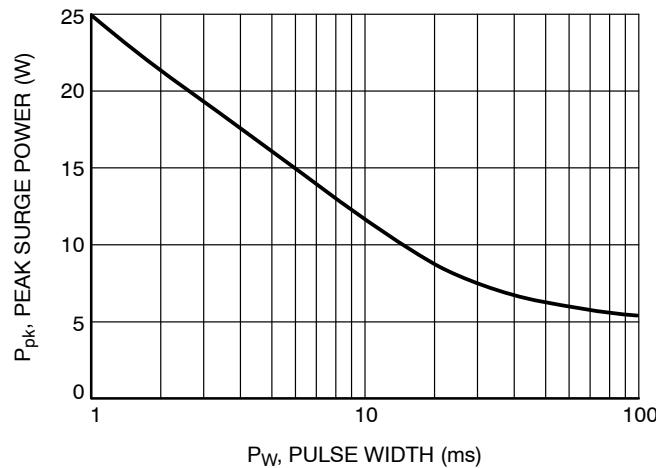

Figure 2. Maximum Non-repetitive Surge Power versus Pulse Width
3. For different square pulse durations, see Figure 2.